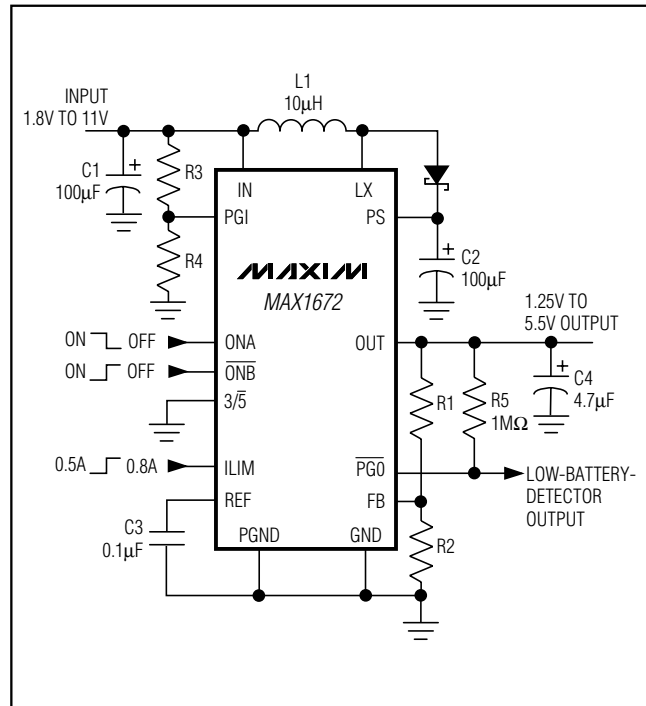

Figure 2. Adjustable Output Voltage Configuration
For fixed output voltages of 3.3V or 5V, connect $\overline{3/5}$ to PS or GND and connect FB to GND (Table 2). Alternatively, adjust the output voltage from 1.25V to 5.5V by connecting two resistors, R1 and R2 (Figure 2), which form a voltage divider between OUT and FB. Choose resistor values as follows:
The MAX1672 contains a comparator for low-battery detection. If the voltage at PGI falls below V_{REF} (typically 1.25V), the open-drain comparator output ($\overline{PGO}$) goes high. Hysteresis is typically 30mV. Set the low-battery detector's threshold with resistors R3 and R4 (Figure 2) using the following equation:
- Keep the IC's GND pin and the ground leads of C1 and C2 (Figure 2) less than 0.2in. (5mm) apart.